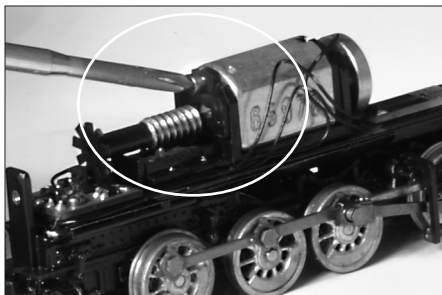

Figure 16 - Remove screw and securement clip.
1. Detach the motor securement clip by removing the Phillips head screw shown in Figure 16, then remove the small plastic part.